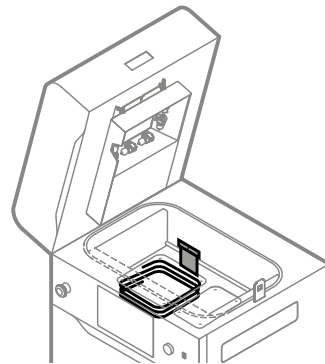

Fig. 13.47 Use a plastic spatula to press down the sealing.
20. Use a clean, plastic spatula while pressing down the fiberglass rope (fig. 13.47).